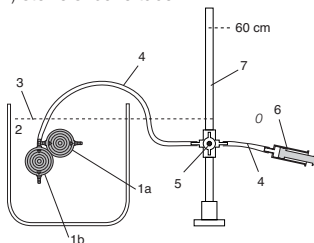

Fig. 21: Test setup
- Position the manometer and the water bath in such a way that the zero point of the manometer and the fluid level of the water bath are at the same height (Fig. 21).
- Connect the syringe, the manometer and the silicone tube. Use the tube adapter if necessary (Fig. 21).